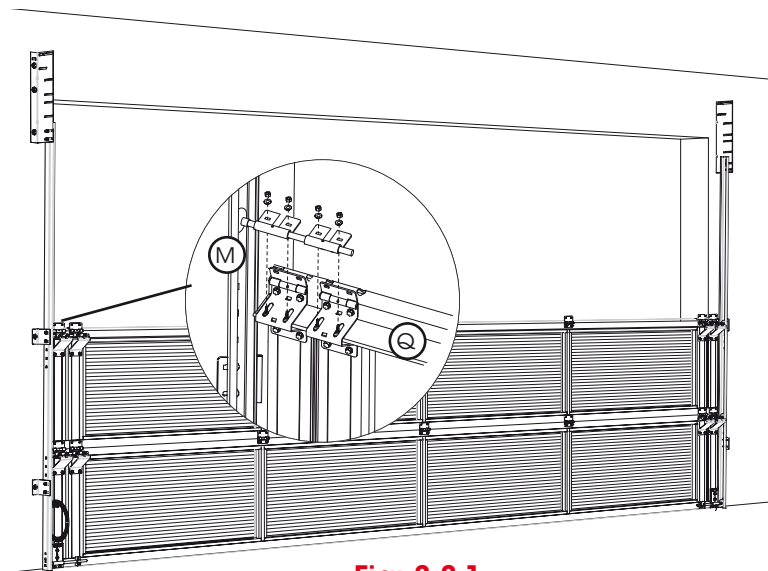

Fig: 3.3.1
- b) Carefully move the second panel into position between the tracks as per Fig 3.3.1.